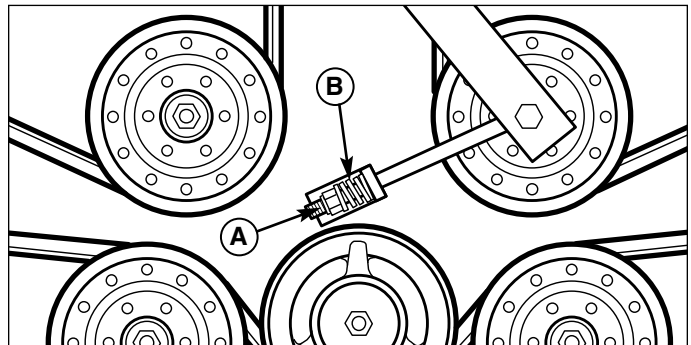

Figure 12. PTO Mower Drive Belt
1. Raise the floor pan and loosen the spring compression nut (A, Figure 12) to release the belt tension.
2. Reinstall the mower deck drive belt on the new spindle pulley. Tighten the spring compression nut (A, Figure 12) until the idler spring (B, Figure 12) is compressed to 1-5/8" long (4,12cm). Be sure the measure the spring only.